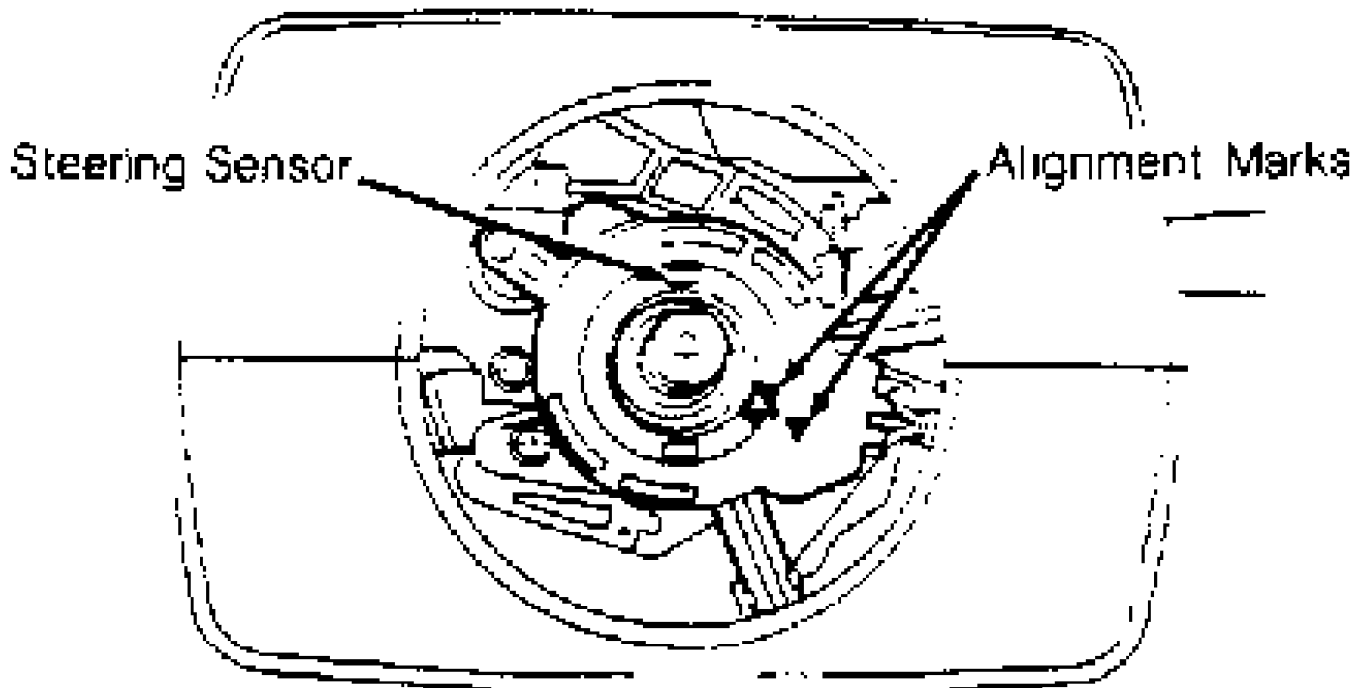

Fig. 1: Aligning Clockspring Connector Alignment Marks
2) Return connector 2 3/4 turns (counterclockwise). Rotate clockspring connector further (if necessary) to align marks on connector and outer housing. See Fig. 1.